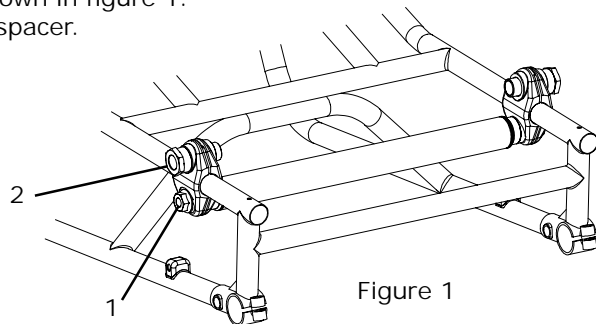

Figure 1
3. Loosen the nut (1) in the nut casing (2) as shown in figure 1.